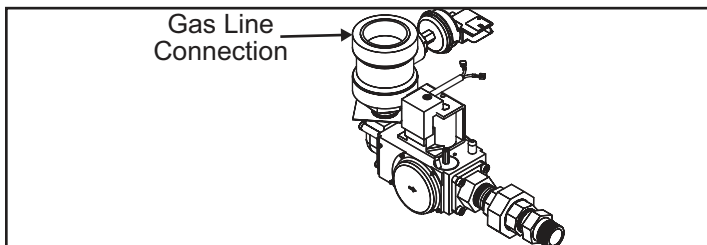

Figure 52. Supply Gas Line Connection
1. The water heaters covered by this manual are shipped from the factory with a 1 1/2" supply gas connection. See **Table 1** (page 10). Connect the supply gas line to the water heater's 24 VAC Gas Valve in accordance with all applicable local and national code requirements. See **Figure 52** (page 39).